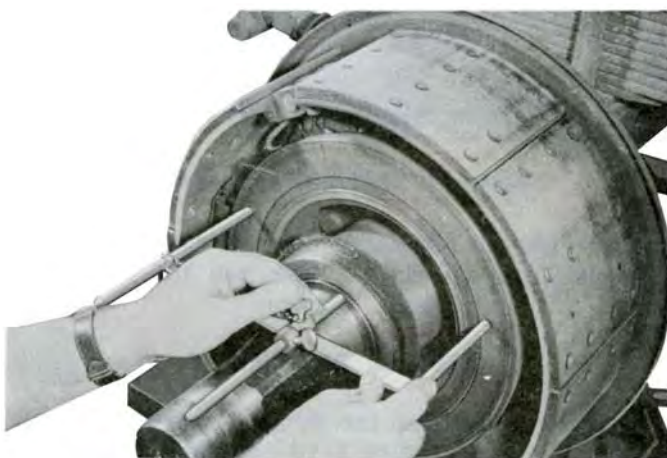

Figure 2-14
Step 2 Next, tighten the frame thumb screw, positioning the movable leg (Figure 2-14). Move the collar up against the frame and tighten the collar thumb screw fixing the collar securely upon the movable leg.